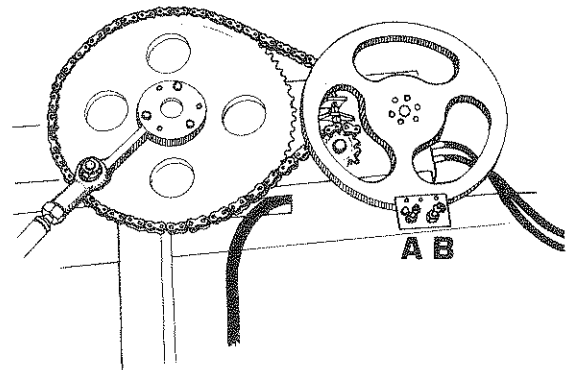

Fig. 32
The knotter brake is used to hold the needle yoke and knotter in the rest position and is always applied. To adjust compress the springs on screws (A) and (B) to $1\frac{3}{4}$ inches length, see Fig. 32.